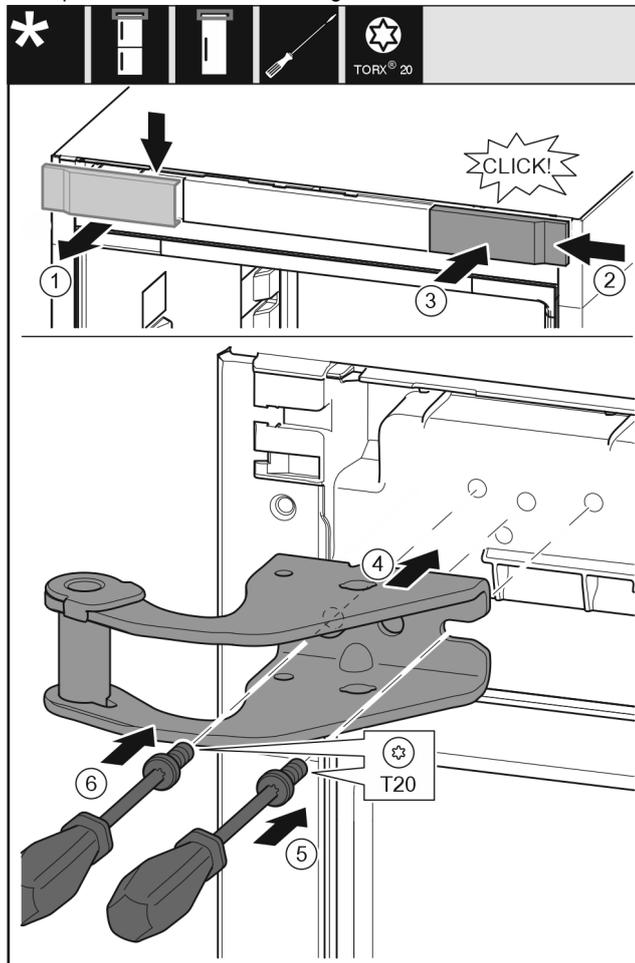

Fig. 8
- ▶ Take off the cover from above to the front. Fig. 8 (1)
- ▶ Rotate the cover 180° and clip onto the other side from the right. Fig. 8 (2)
- ▶ Latch the cover into place. Fig. 8 (3)
- ▶ Position the upper bearing bracket. Fig. 8 (4)
- ▶ Insert the screw with a T20 screwdriver and tighten it. Fig. 8 (5)
- ▶ Insert the screw with a T20 screwdriver and tighten it. Fig. 8 (6)